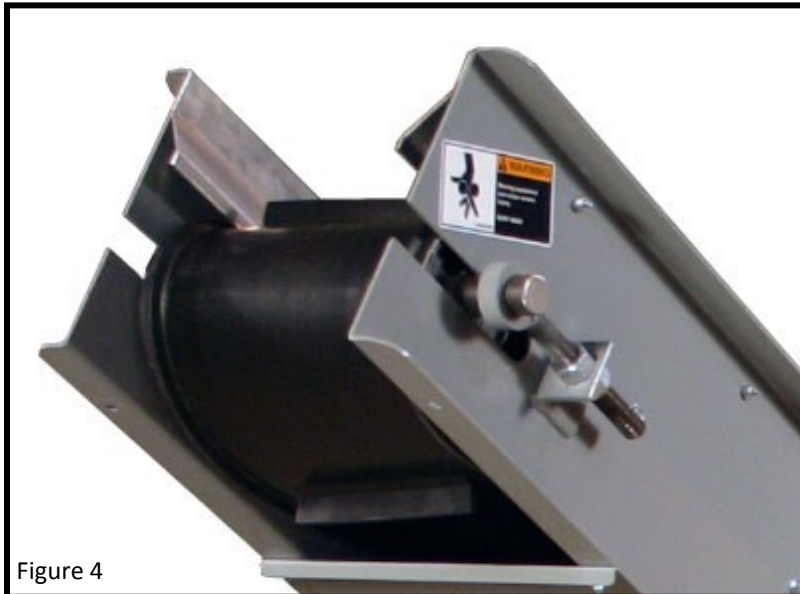

Figure 4
- Loosen jam nuts, each side of machine (see figure 4, below).